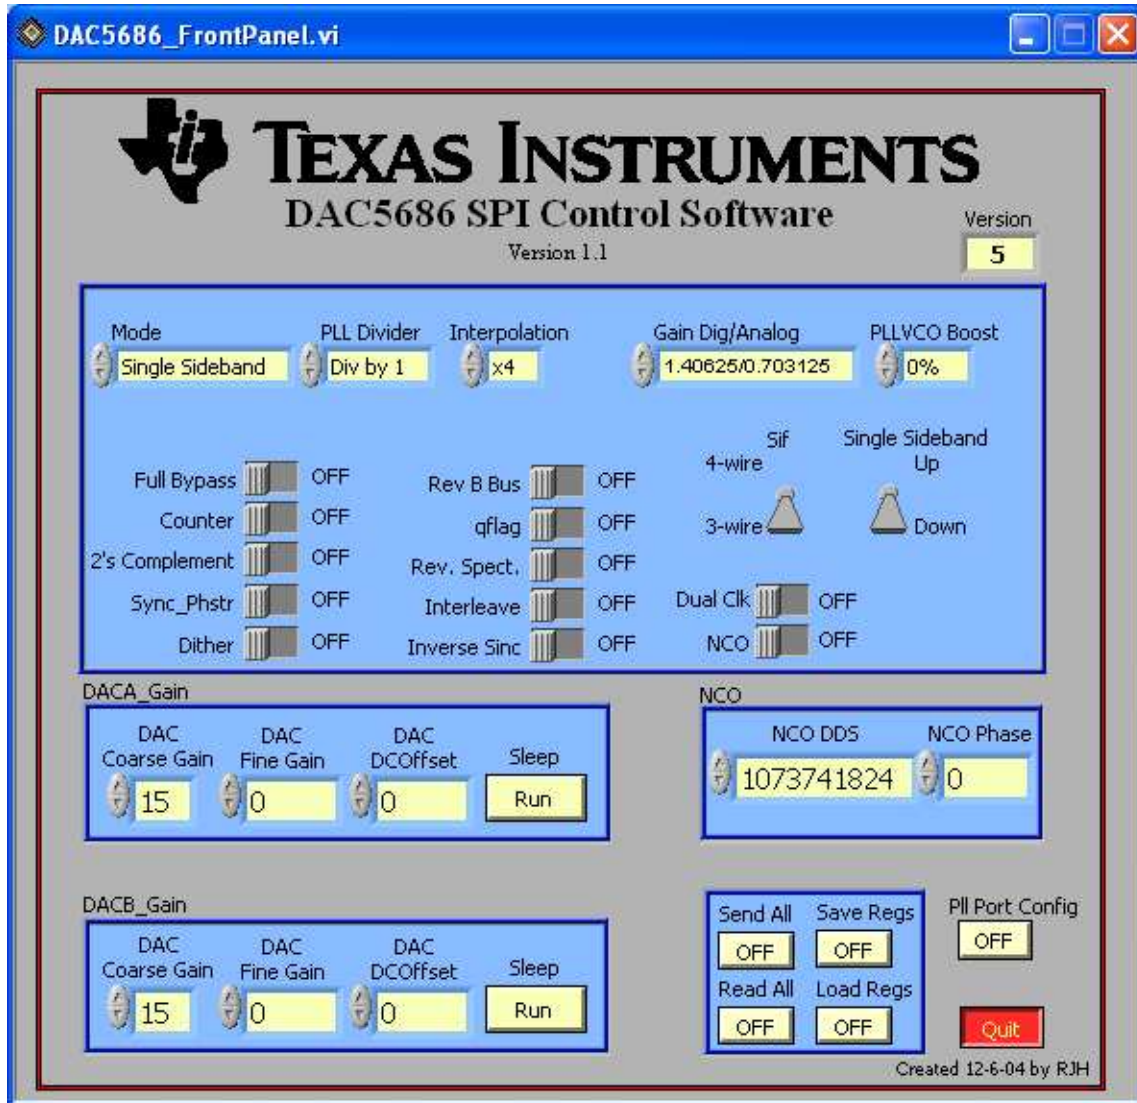

Figure 2. DAC5686 Setup for X4 Interpolation, Single Sideband Mode and Tone at F_{dac}/4
4. Turn "Full Bypass" off, change Interpolation to "x4", set Mode to "Single Sideband" and the Coarse Gain for both DACs to 15. The GUI should now look as shown in Figure 2.